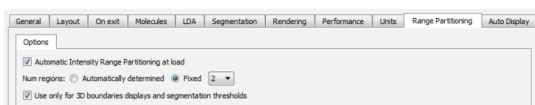

Figure 3.28: Avizo Preferences panel
- Select the entry Preferences in the Avizo Edit menu, and make sure that Intensity Range Partitioning options are set according to the defaults shown on Figure 3.28: automatic guess of two material densities in the loaded image data (i.e., void and solid ranges/regions in the intensities scale).